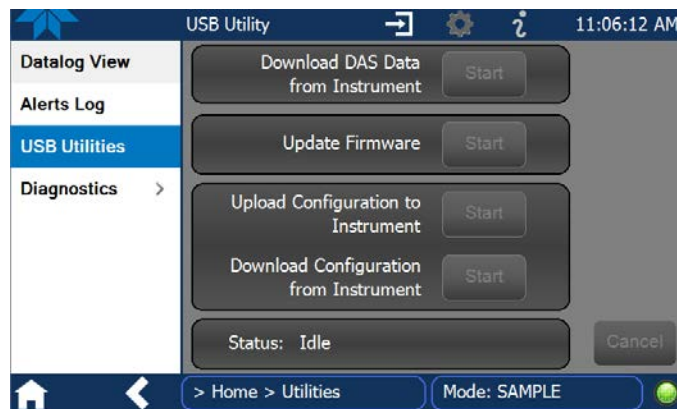

Figure 3-10. DAS Data Utility
1. Press USB Utilities menu to open the utility page (Figure 3-10).